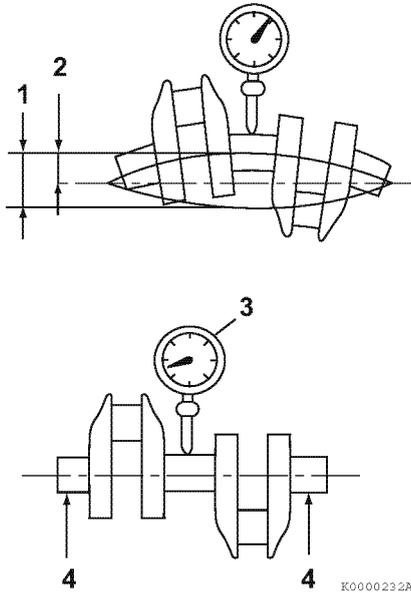

Figure 6-80
1. Place the crankshaft end journals (4, **Figure 6-80**) on V-blocks.
2. Place a dial indicator (3, **Figure 6-80**) on a center main bearing surface.